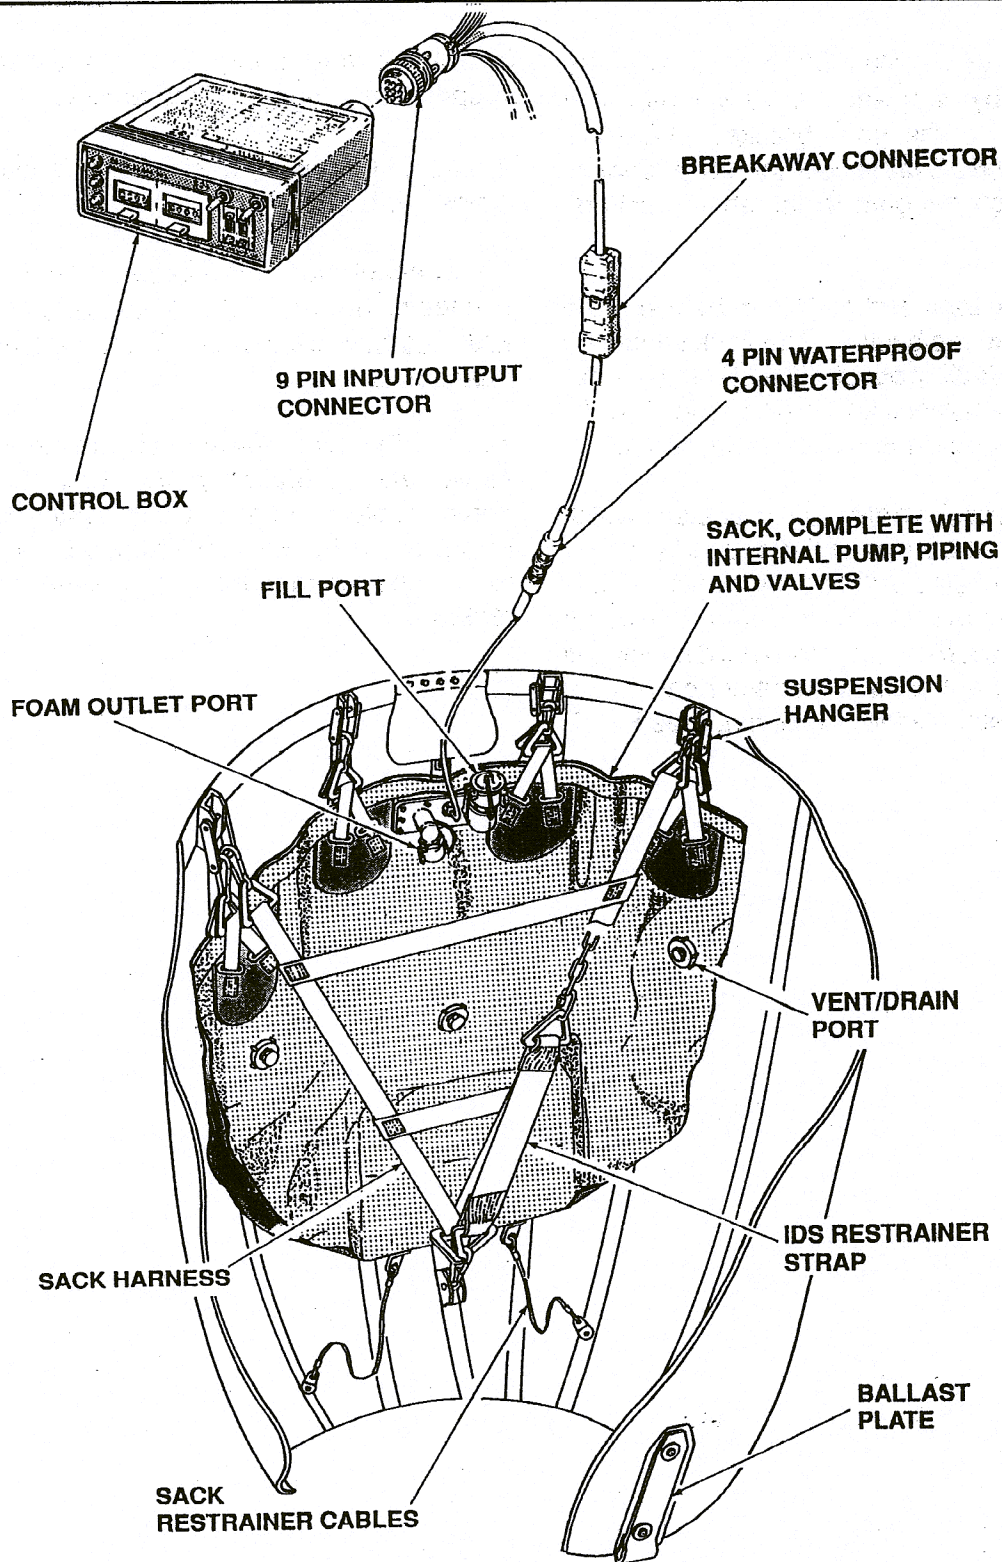

Fig. 7: General installation of Sacksafoam; model 7698.
4. Connect the lower end of the restrainer strap and sack harness (joined together with a spring link) to the restrainer bracket, reinstalling the clevis pin (removed in step 1). Use a new cotter pin to secure the clevis pin to the restrainer bracket. See Fig. 7.
7. Locate the stainless steel ballast plates, which are bolted to the bottom of the second stiffener batten, on either side of the ballast pouch. Inside the bucket, remove the nylock nut and washer which retain the top of each ballast plate. Slide the tab on the end of the sack restrainer cable over the bolt, and reinstall the nylock nut. See Fig. 7.